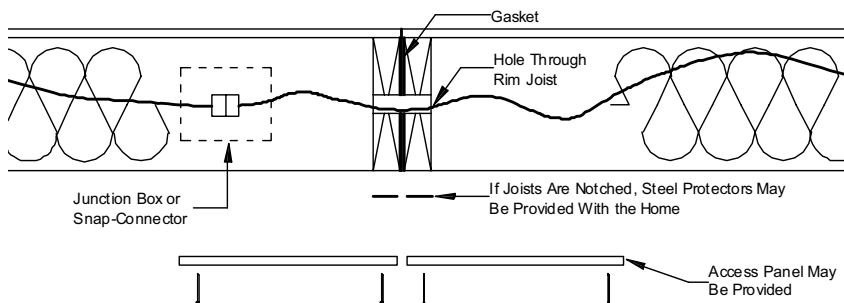

Figure 47. Electrical crossover floor wires with flush access panels
- 1. Access wires.** Find the crossover location(s) and remove the access panel(s) if attached. If access panel openings are not provided, cut through bottom board to expose the wiring (**Figure 47**).